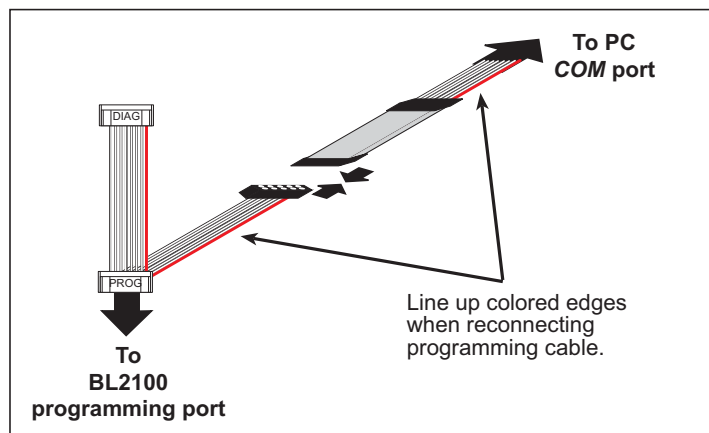

Figure C-10. Reconnect Programming Cable
3. Line up the colored edges of the programming cable when reconnecting the programming cable. Reconnect the programming cable as shown in Figure C-10, being careful to align the pins with the jack